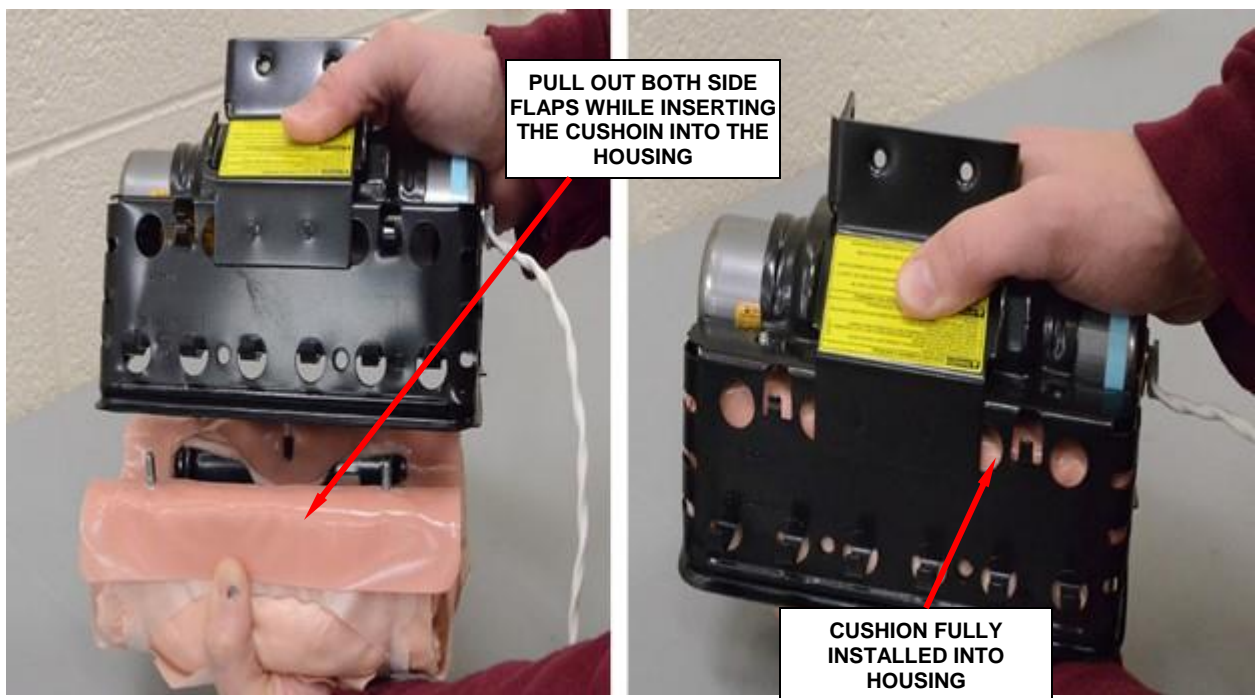

Figure 13 - Side Flaps Must Be Held Out
k. Insert the cushion, pulling out both side flaps (Figure 13).